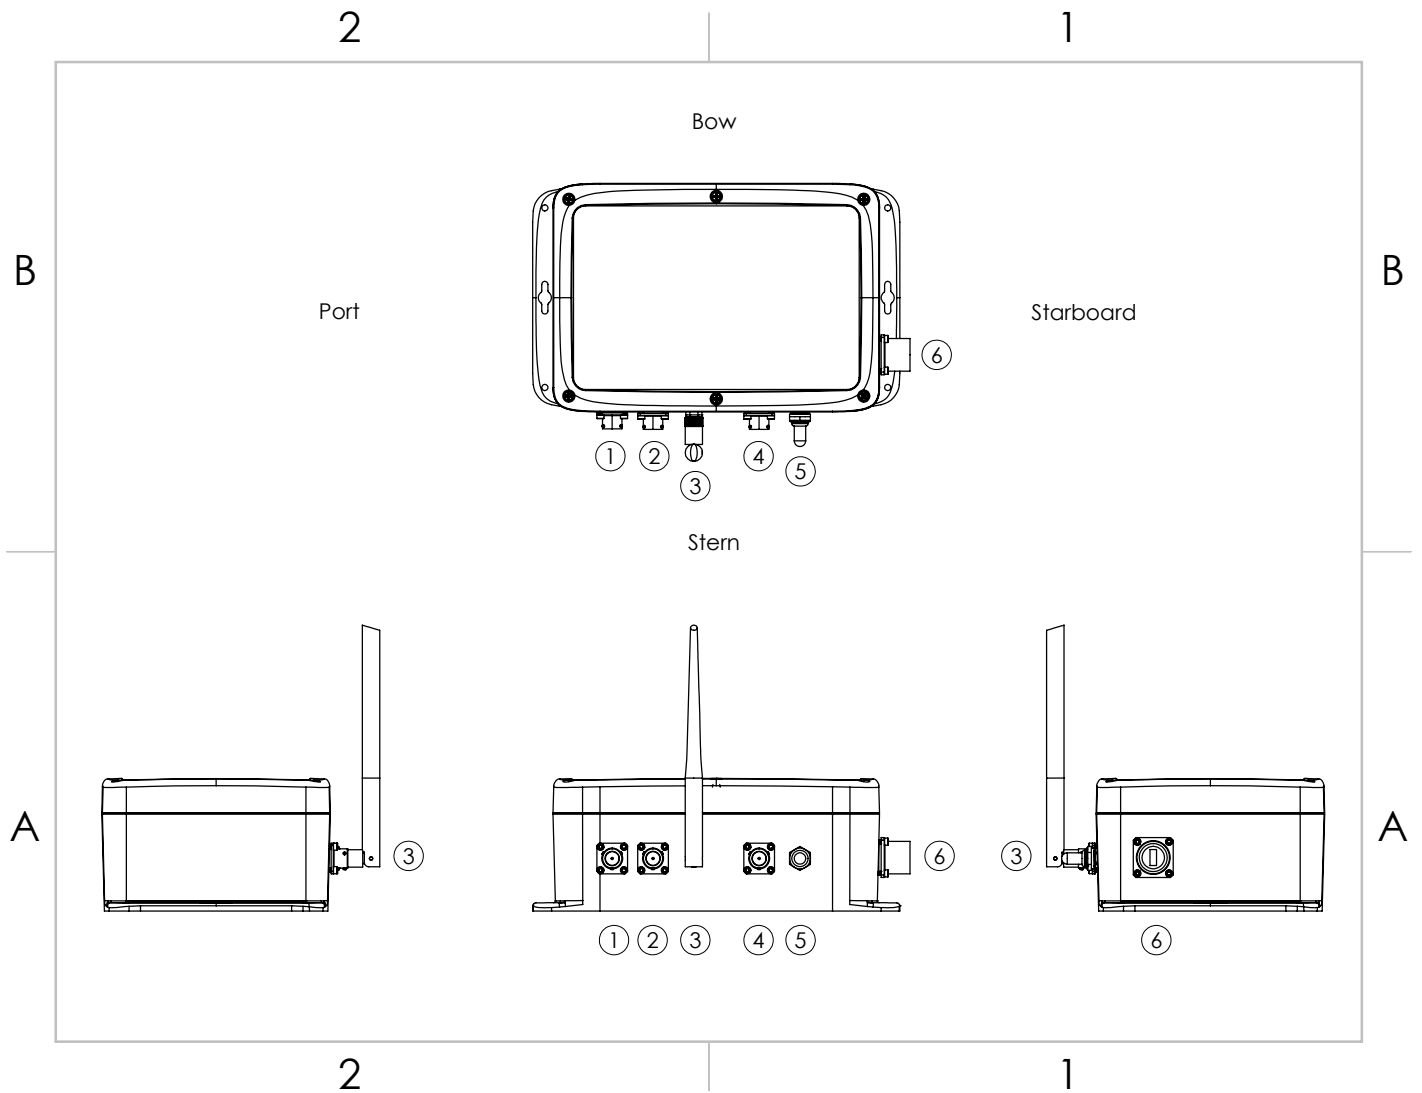

Figure 5: AutoNav™ Layout
16. Place the AutoNav™ on the Hydron™ frame. Power switch facing the stern. (Figure 5)
19. Screw in the 1x Telemetry Module Antenna into the SMA bulkhead on the AutoNav™. (Figure 5)